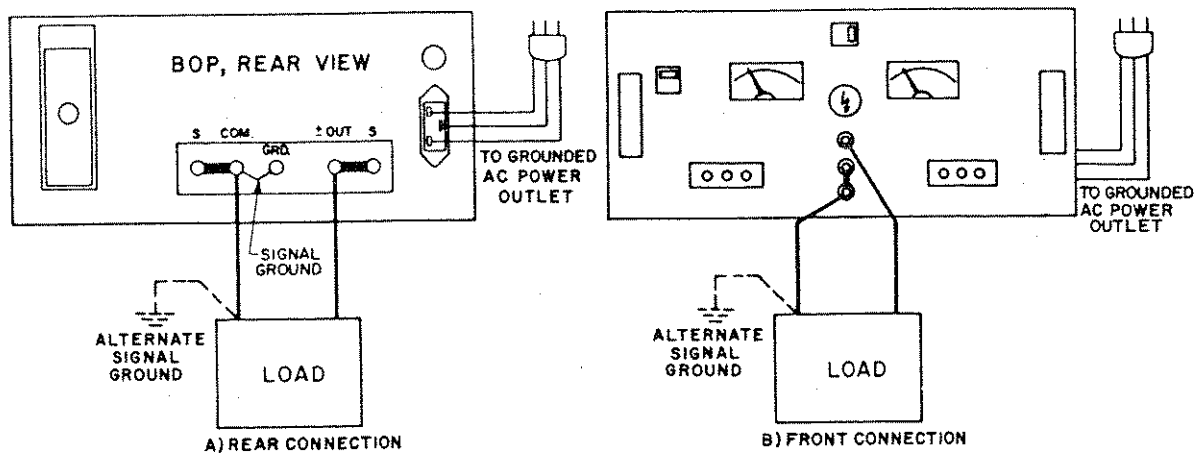

FIG. 3-2 BASIC 2-WIRE LOAD CONNECTION AND GROUNDING CONNECTIONS BETWEEN THE BOP AND THE LOAD.
B) LOAD CONNECTION (1). The basic interconnection between the BOP and the load are shown in FIG. 3-2. The load wire size for the 2-wire connection shown should be as large as practicable to keep the series resistance and inductance low. In addition, the load wire pair should be tightly twisted, to reduce possible "pick-up" from stray magnetic fields. The basic 2-wire connection is useful where the voltage drop in the load wires is of minor consequence, as for example, operation into a constant load or in a constant current operating mode.